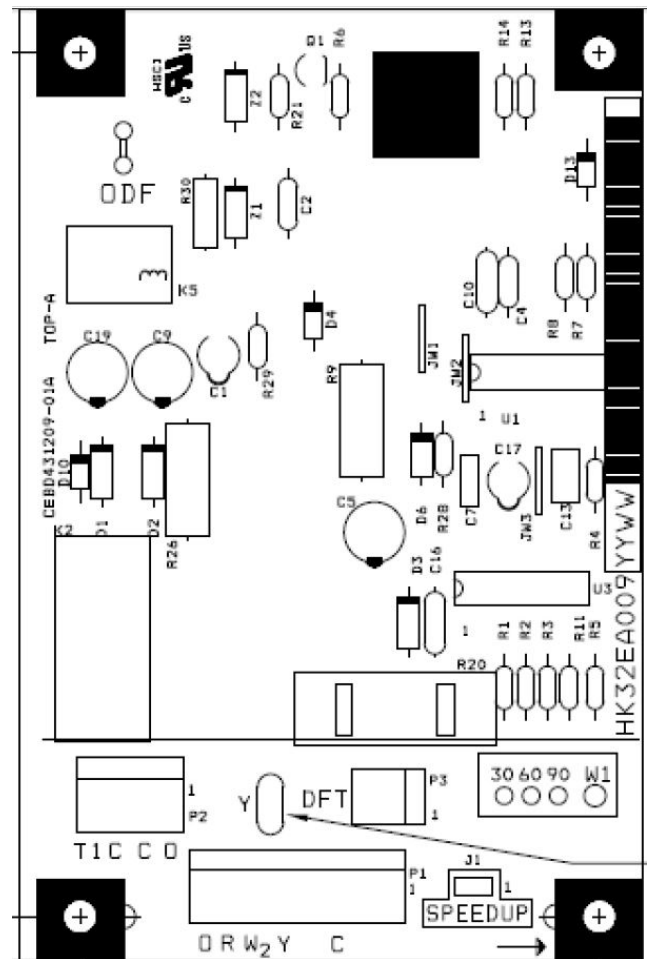

Fig. 12 – Defrost Control **HK32EA009** for units with ECM Motor
2. Disconnect outdoor fan motor lead from OF2 on control board for units using PSC motors and from ODF terminal on units with ECM motor (see Fig. 12). Tape lead to prevent grounding.